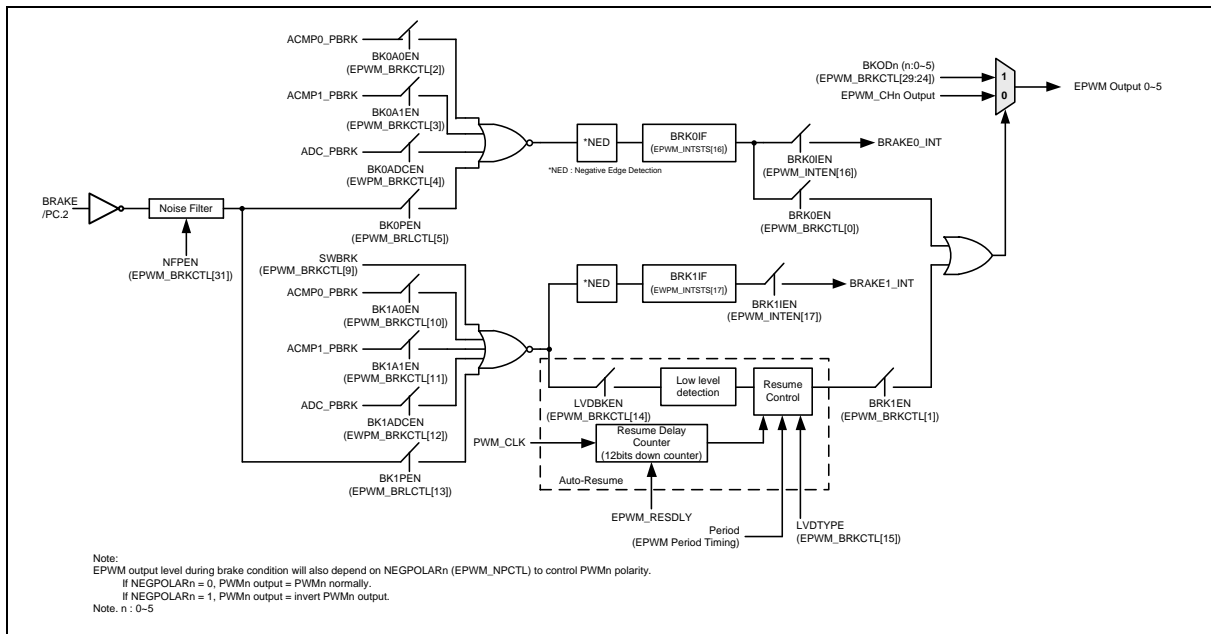

Figure 6.8-22 EPWM Brake Architecture
**Note:** For the BRKnIF's interrupt architecture illustration, see Figure 6.8-22.